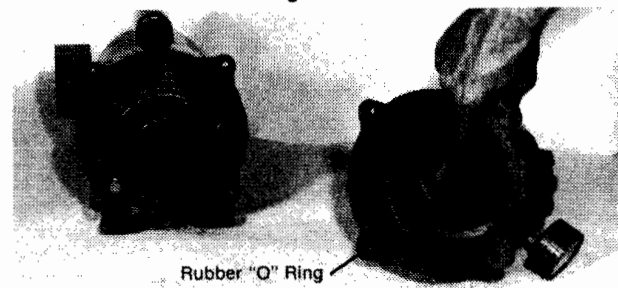

Figure 16
13. Rubber "O" ring must be in place in case before re-assembling pump unit into case. (See Fig. 16).